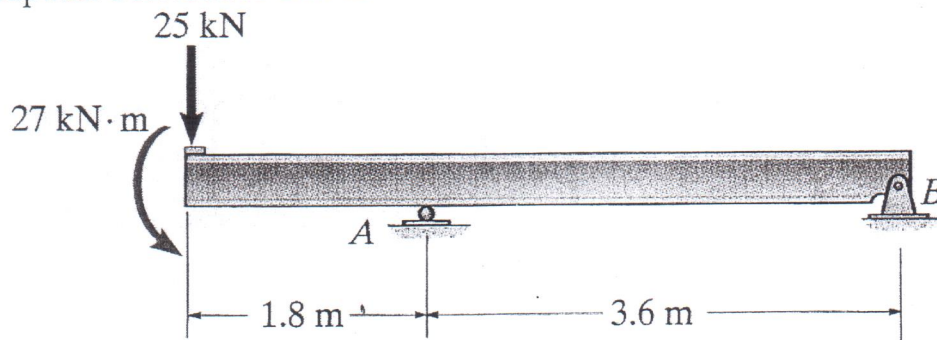

Figure 10.
- (10) Derive the equations of the slope and elastic curve for the loaded beam shown in **Figure 10**. EI is constant. Determine the following in terms of EI :